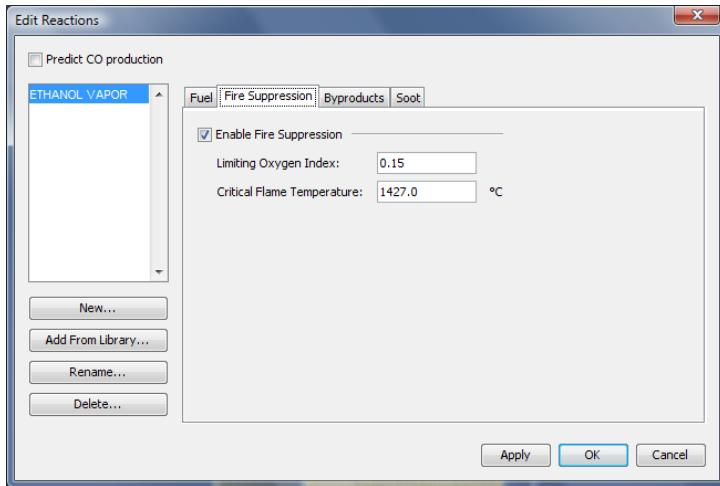

Figure 11.3. Fire Suppression panel of the Edit Reactions dialog
4. On the **Fire Suppression** tab, you can enable fire suppression and then enter values for the **Limiting Oxygen Index** (X_{O2_LL}) and the **Critical Flame Temperature** ($CRITICAL_FLAME_TEMPERATURE$). The default values are shown in Figure 11.3.